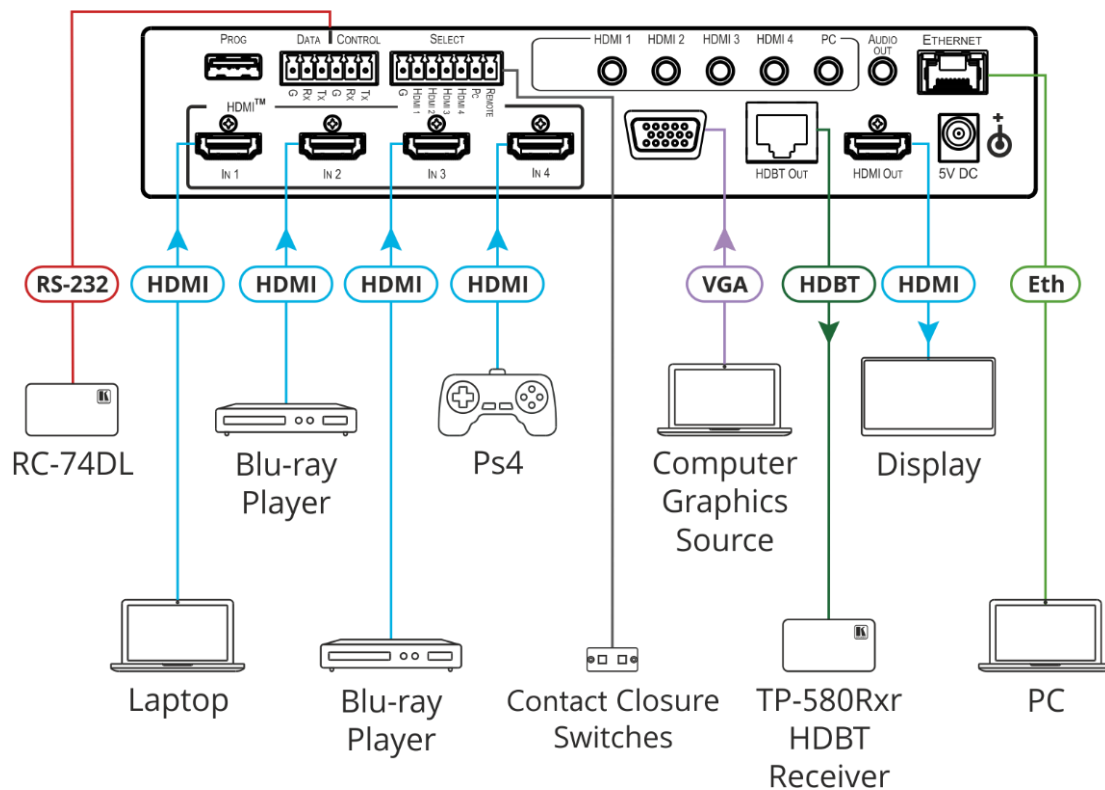

Figure 3: Connecting to the VP-440X Rear Panel
To connect the VP-440X as illustrated in the example in Figure 3:
- A computer graphics source to the PC IN 15-pin HD connector (14).
- HDMI sources (for example, a laptop, two Blue-ray players, and a gaming console) to the four HDMI IN connectors (9).
- Connect an analog stereo audio source (not shown in Figure 3) for each of the four HDMI inputs (15) and for the PC input (16) to the 3.5mm mini jack connectors.
- An HDBaseT receiver (for example, Kramer TP-580Rxr) to the HDBT IN RJ-45 connector (17).
- An HDMI acceptor to the HDMI OUT connector (19).
- Connect an unbalanced stereo audio acceptor (for example, active speakers, not shown in Figure 3) to the AUDIO OUT 3.5mm mini jack (18).
- Connect a laptop to the Ethernet RJ-45 connector (20).
- Connect the 5V power supply to the 5V DC power terminal block (21).
- Connect a PC or serial controller (not shown in Figure 3) to the CONTROL (Tx, Rx, G) terminal block connector (12), to control the unit via serial control.